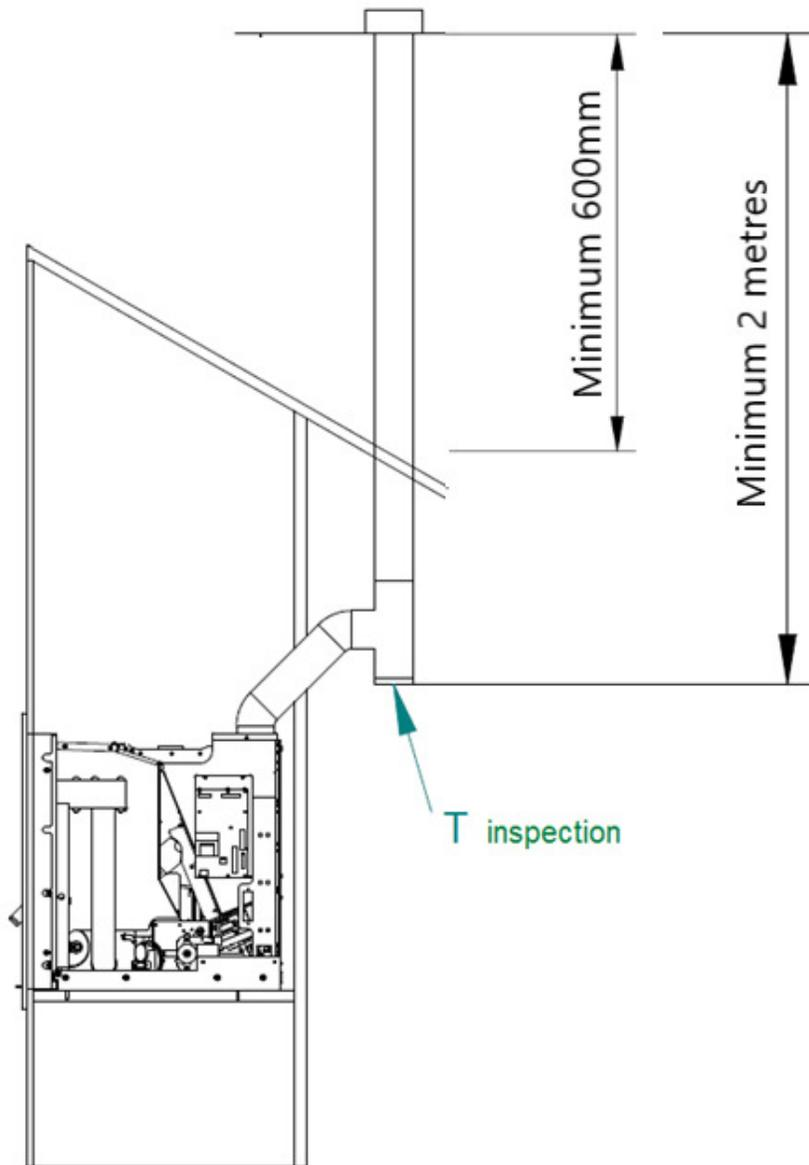

Figure 40 – Side view of the installation without chimney, example of the inspection point.
- As shown in figure 40, the exhaust duct must be so arranged that cleaning and maintenance are ensured by insertion of the inspection points. The insert contains a registration cover in the smoke box for cleaning.
The installation of the pellet inserts when there is no chimney should occur, as in figure 40, bringing the exhaust pipe (with a minimum internal diameter of 80 mm) directly out and above the roof.
Provide at the base of the tubing a T for periodic inspections and annual maintenance, as exemplified in figure 40.